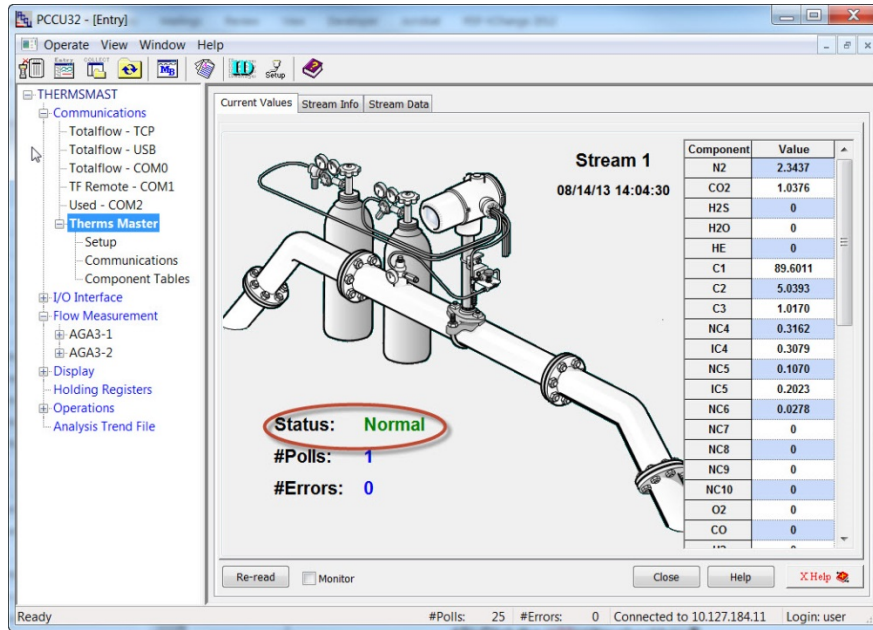

Figure 26. Verifying Therms Master reception of analysis data
- 9) Verify the Therms Master interface is getting the analysis data for the stream specified by left-clicking on *Therms Master* in the tree view on the left, as shown in Figure 26.